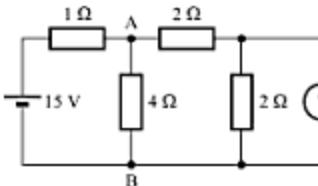

Fig. 4.38
- Find the current through $4\text{-}\Omega$ resistor in the circuit shown in Fig. 4.38, using superposition theorem.